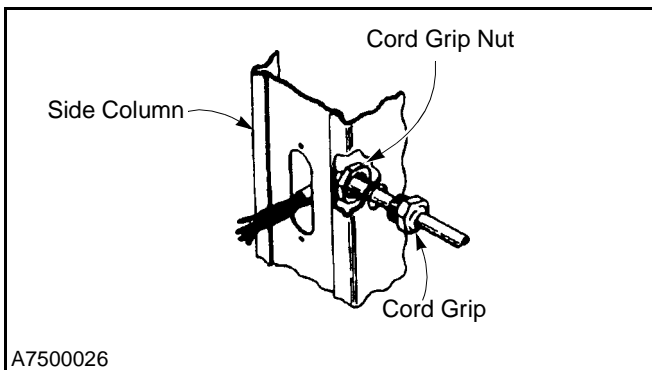

Figure 30
2. Feed the coil cord and the cord grip through the hole located midway up the motor mount side column. (See Figure 30.)